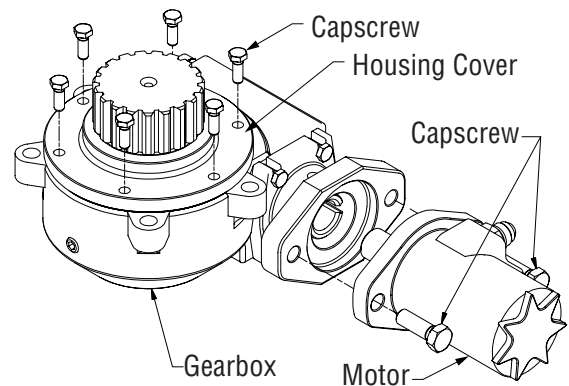

Figure 5-25, Motor Removal
3. Place the gearbox on a flat surface and remove the motor mounting capscrews. Note: Coupling fits loosely and may slide out. (Figure 5-25)